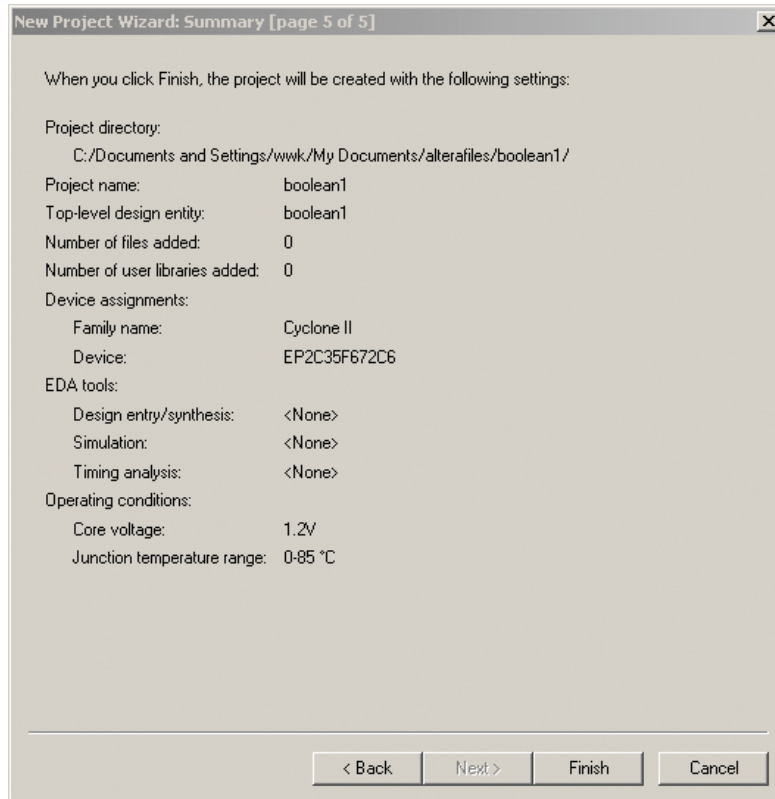

Figure 21 The New Project Wizard screen (5 of 5).
- The fifth wizard screen is shown in Figure 21. This shows a summary of all of the choices that we have made. Press **Finish** to complete the New Project Wizard.